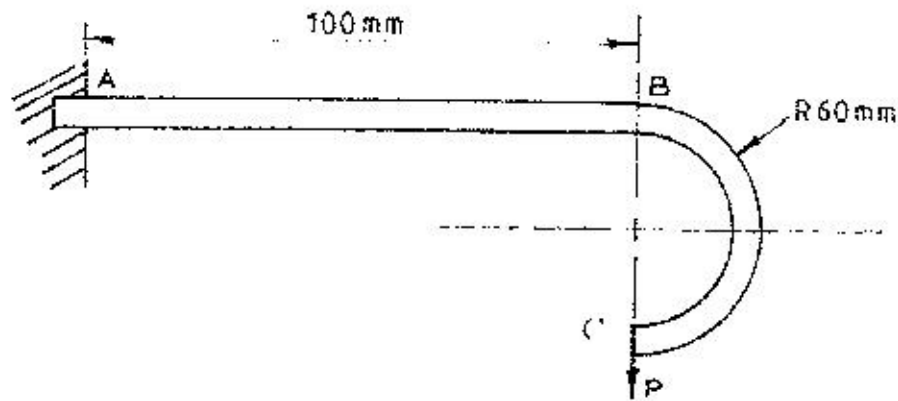

Fig. 3
3. (a) Figure 3 shows a rectangular thin bar of breadth 20 mm and depth of 2 mm, firmly fixed at A. Using Castigliano's theorem, derive an expression for the vertical deflection at C. (14 marks)